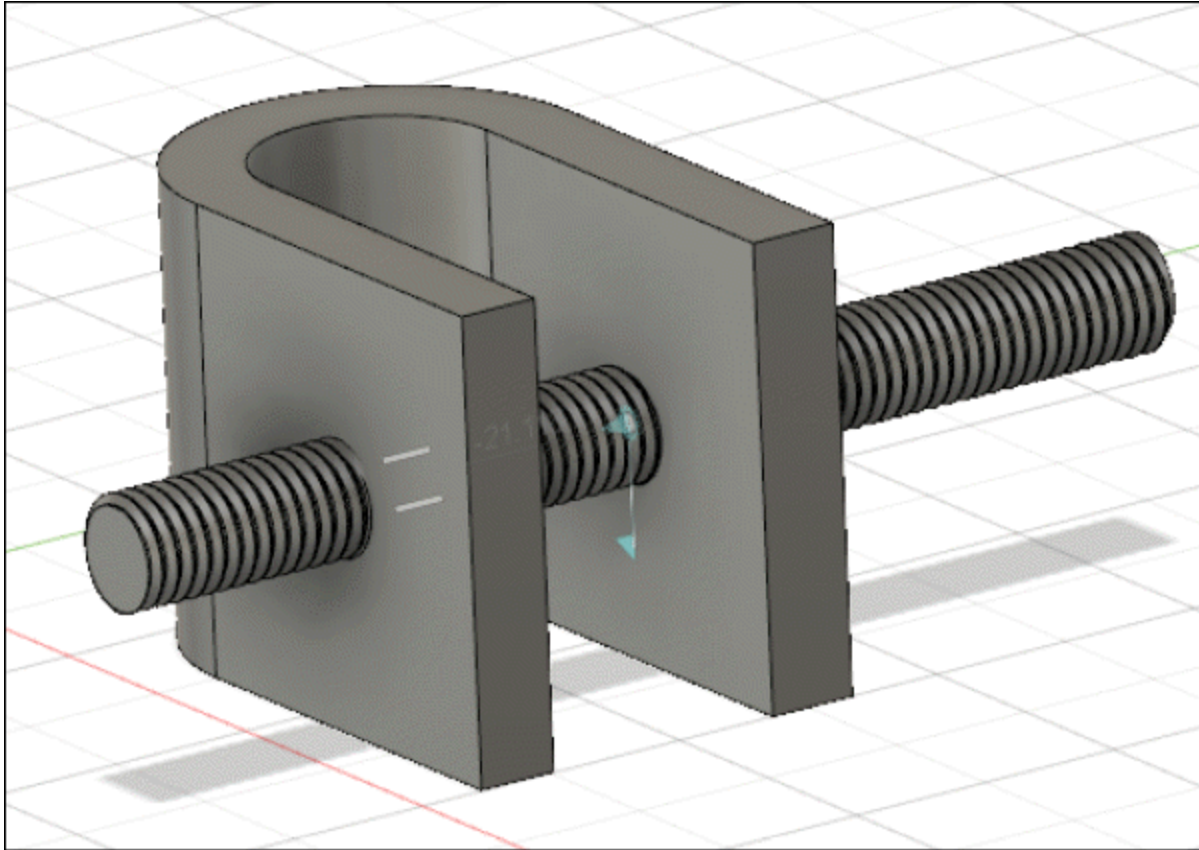

Figure-50. Motion Link created between joints
- After specifying the parameters, click on **OK** button of **MOTION LINK** dialog box to complete the process; refer to Figure-50.